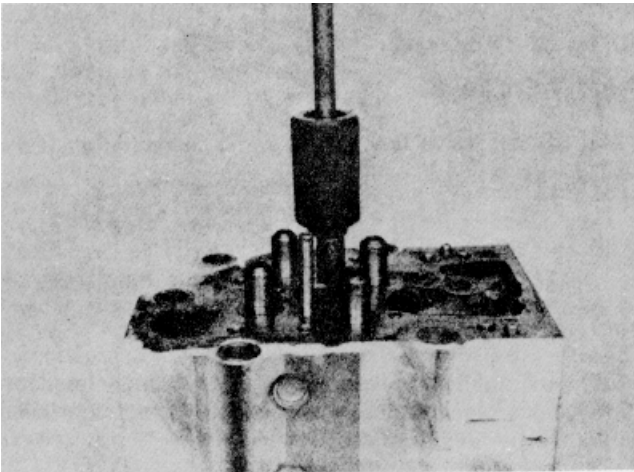

Figure 16D-19. Remove the Crosshead Guides
2. Use the ST-1264 Crosshead Guide Driver to press the new guides into the cylinder head, Figure 16D-20. If the new driver is not available, press the new guides into the head to obtain the assembled height as listed in Table 16D1 (11).